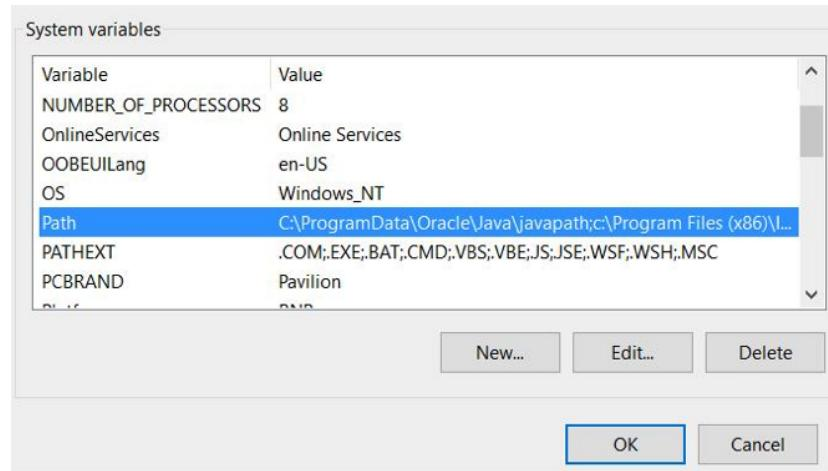

Figure 5: Windows System variables. This is part of *environment variables* in Windows.
7. Windows users might also need to add this ImageJ library folder to their system environment variables path. To do this locate *system variables* in *environment variables* and click on the ‘Path’ parameter (figure 5). Press edit and add a new path pointing to your ImageJ library folder, example: C:/Documents/ImageJ/jre/lib.